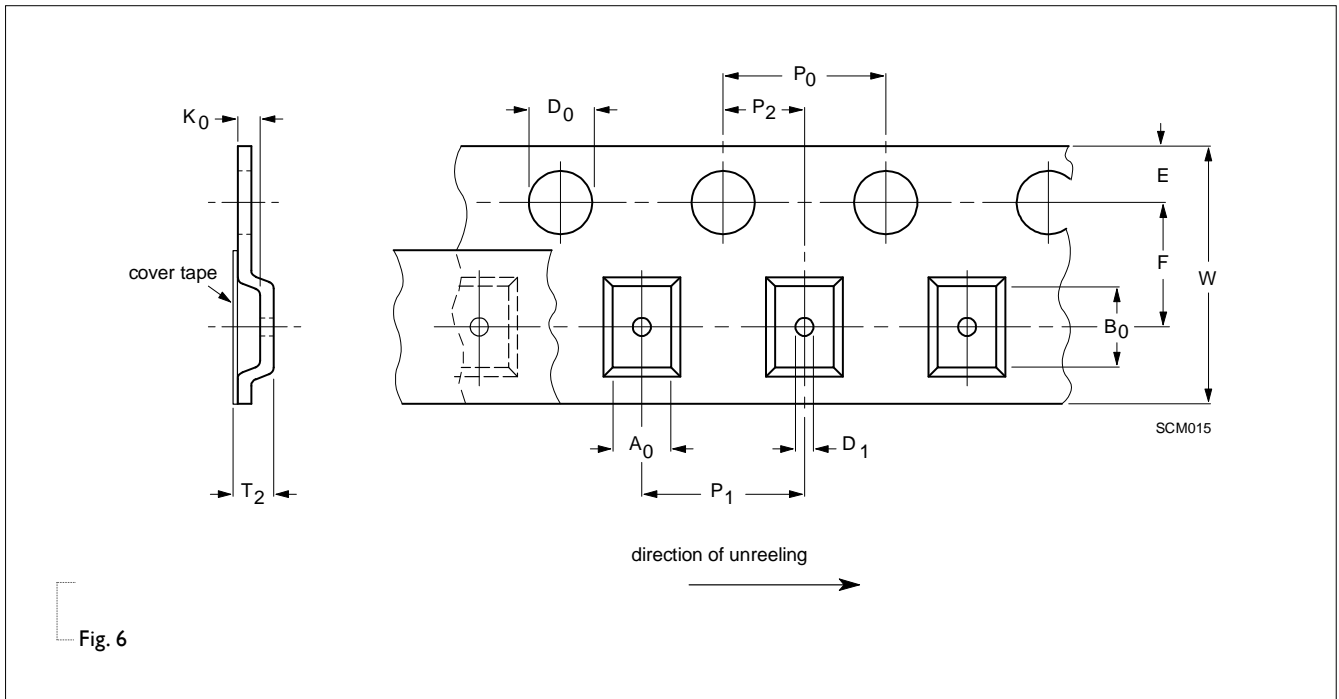

Fig. 6
**Table 8** Dimensions of blister tape for relevant chip size; see Fig.6